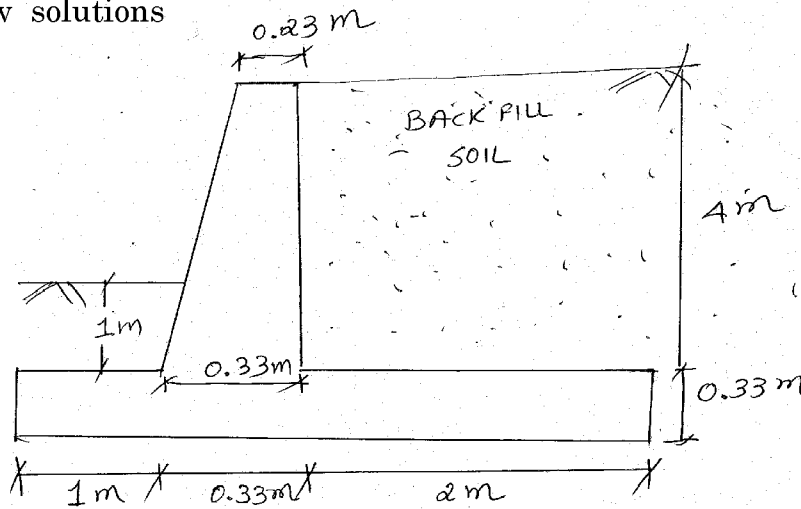

Fig.1
- 8 For the given dimension of Retaining wall, check the stability against Overturning and sliding. Specific weight of soil is 18 KN/m3,  $C_p=1/3$ ,  $\mu_s=0.6$ , Refer Fig.1. If retaining wall is not stable, how you will make it stable ? Explain few solutions 15